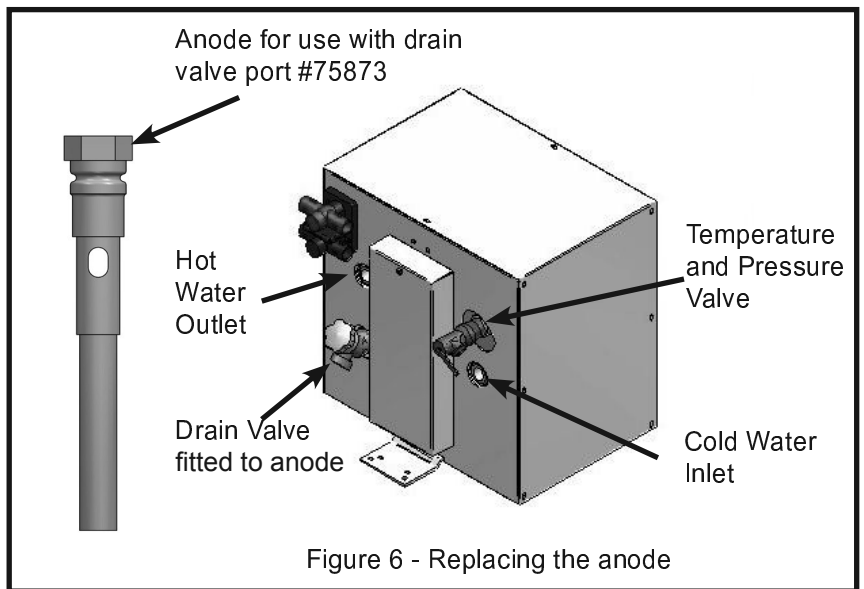

Figure 6 - Replacing the anode
- To replace the anode, remove the drain valve and the pre-installed sacrificial anode (figure 6) and screw the new anode and drain valve back in its place.